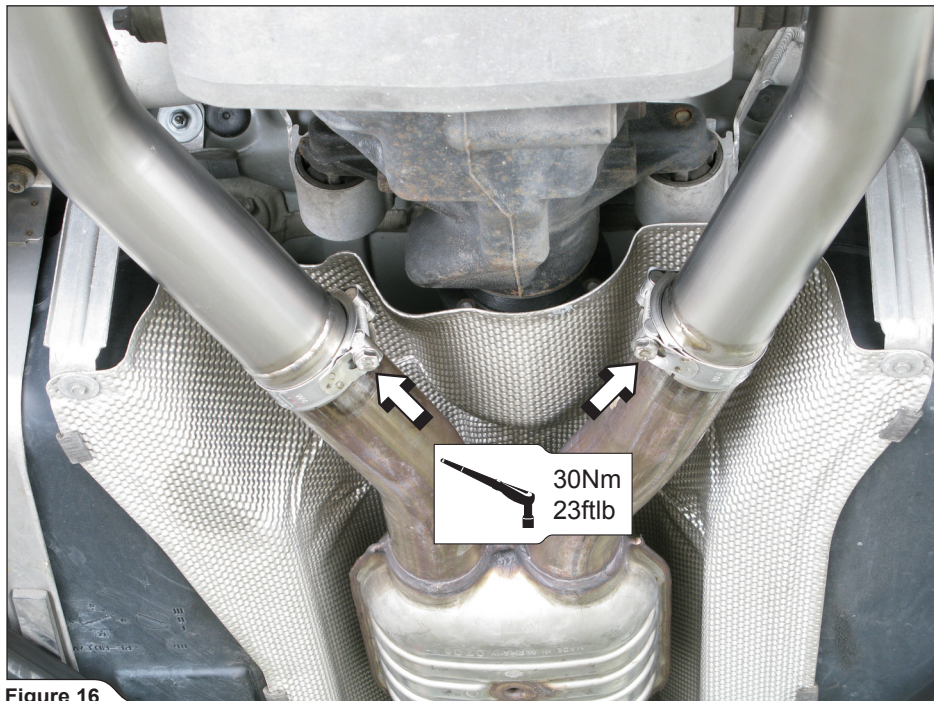

Figure 16
8. **For Slip-on:** slide the muffler pipes bushes all the way onto the stock middle pipes and tighten the clamps to a specified torque (**Figure 16**).